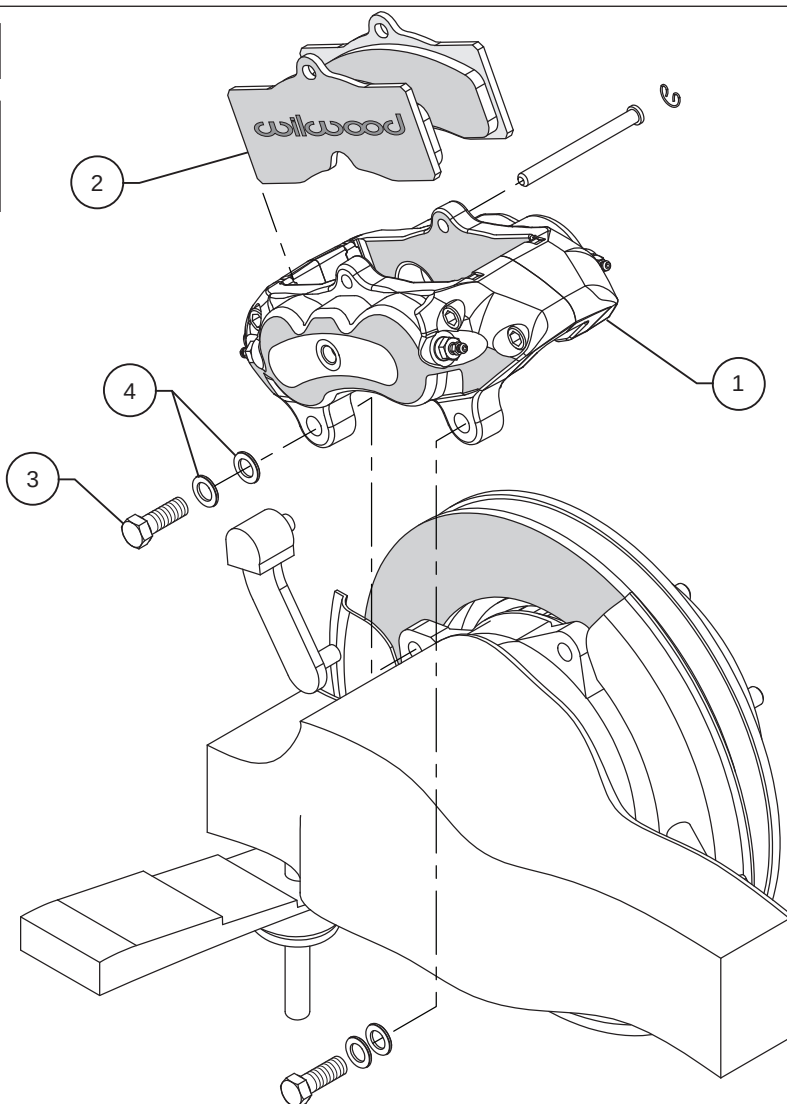

Figure 1. Typical Installation Configuration
• Place the Wilwood D8 caliper (1) in the exact position as the original caliper. Secure the caliper to the OEM mounting bracket by sliding bolt (3) through two washers (4), as shown in Figure 1, using red Loctite® 271 on the bolt threads. Torque bolts (3) to 55 ft-lbs.
• Remove the caliper pad retaining pin from the caliper (1) by popping out the pin retaining clip and sliding out the pin. Slide the brake pads (2) into place. They should install easily without interference. Reinstall the pad retainer pin and secure using the pin retaining clip.